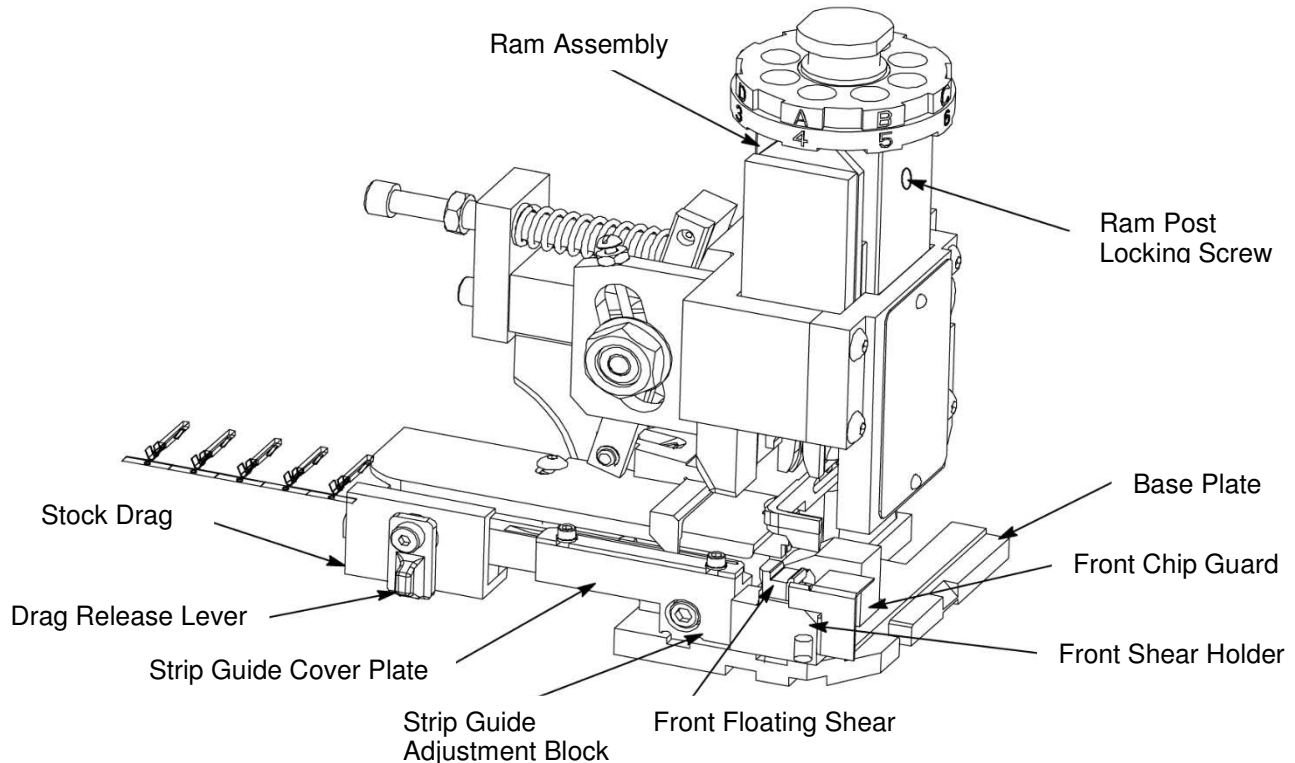
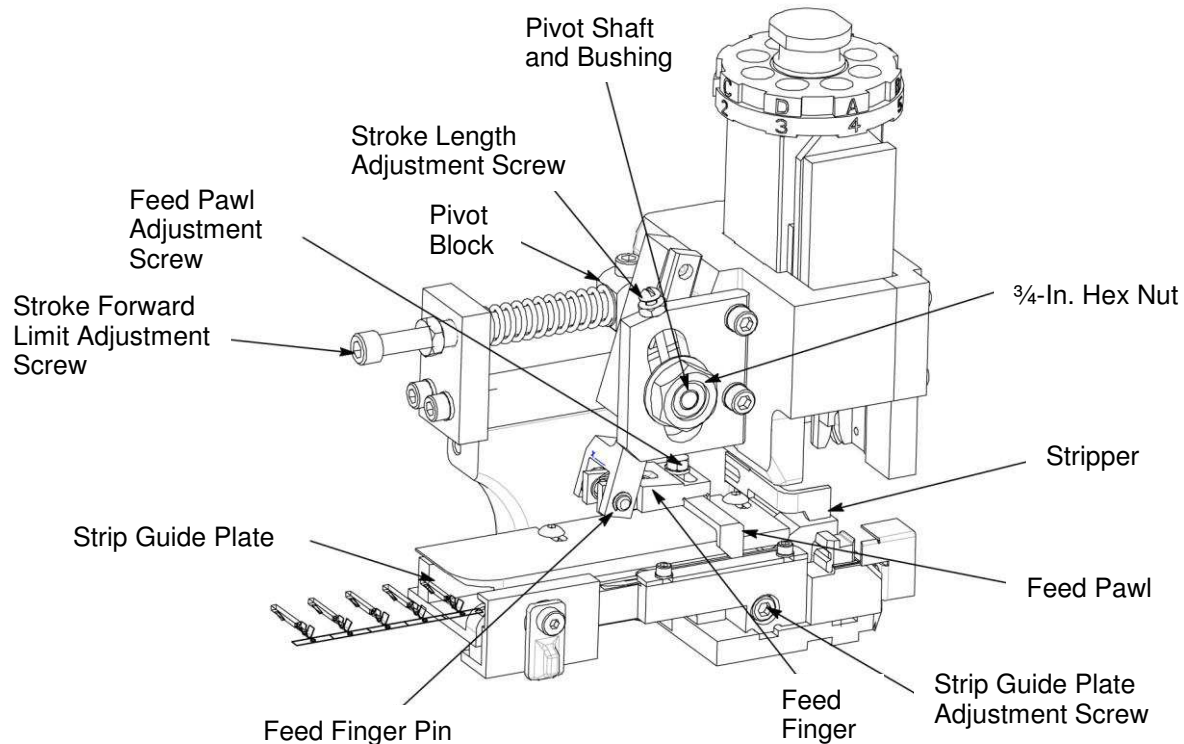
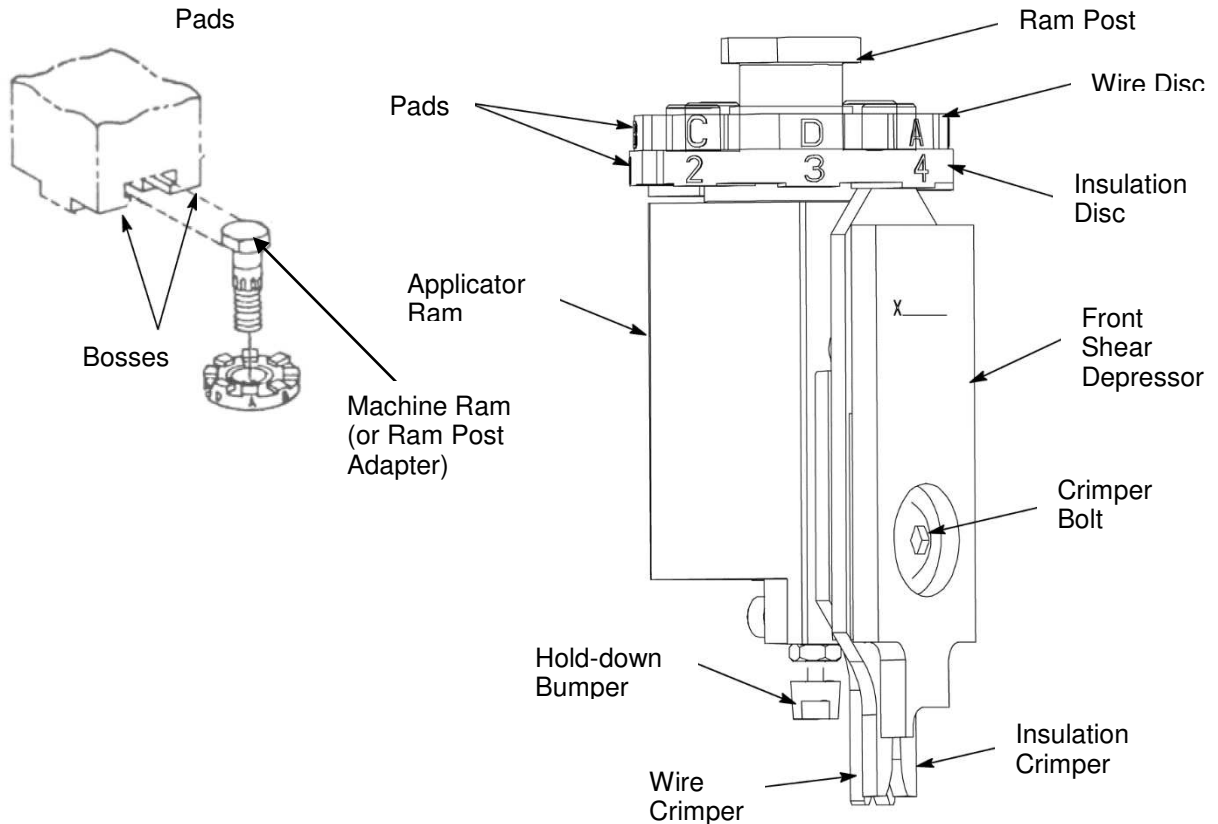
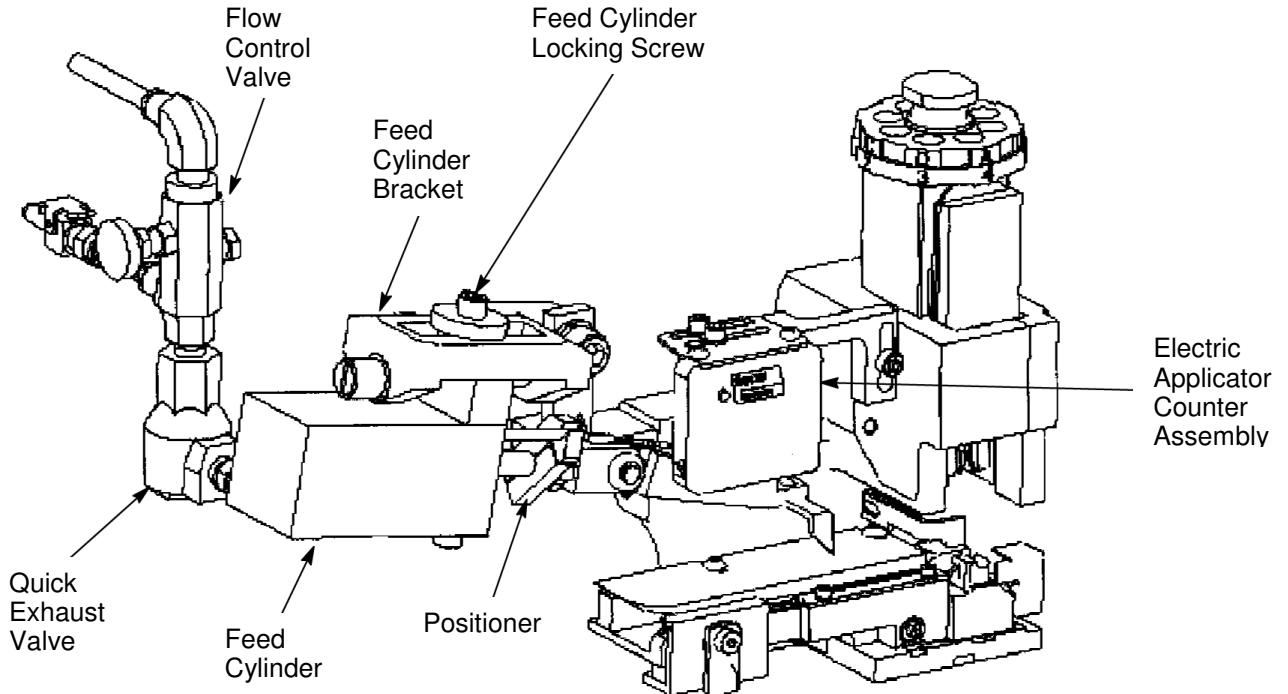

Figure 1
Figure 2
Figure 3
Figure 4
The Heavy Duty Miniature Quick-Change Applicator (side-feed type) with mechanical and air-feed systems apply side-feed strip terminals to pre-stripped wires (see Figure 1). Each applicator accepts the strip form of certain terminals, which are identified on the applicator parts list and exploded view drawing (Applicator Log) for each applicator. The terminal listed on the data plate is the one that was specified when the applicator was ordered. Some terminals have two carrier strips; others, just one.
The main components of the applicators with mechanical feed are identified in Figure 1 and Figure 2. The ram assembly is shown in detail in Figure 3.
Just below the ram post are the wire disc and insulation disc. The wire disc has as many as four pairs of pads, depending on the number of different wire sizes the terminals will accept. Each pair of pads has a different height. By rotating the disc, each pair of pads can be lined up with the two bosses on the ram post adapter (see Figure 3) to change the length of stroke of the wire crimper over the anvil. The insulation disc contains eight pads of different heights. When this disc is turned, the pads line up with the top of the insulation crimper to change the insulation crimp height.
2. Turn wire disc (upper disc) to line up selected pad letter with BOSSES ON MACHINE RAM (or RAM POST ADAPTER (reference Figure 3). This provides the right crimp height for that wire size.
3. Loosen screw on top of pivot block (see Figure 2). Turn the stroke forward limit adjustment screw COUNTERCLOCKWISE to move the forward limit toward anvil, or CLOCKWISE to move the forward limit away from anvil. Tighten screw on top of pivot block.
a. **Applicator with mechanical-feed systems** (Figure 2)
- (1) Loosen screw on top of pivot block.
- (2) Turn stroke forward limit adjustment screw COUNTERCLOCKWISE to move forward limit toward anvil, or CLOCKWISE to move forward limit away from anvil.
- (3) Tighten screw on top of pivot block.
b. **Applicator with air-feed systems** (Figure 4)
- (1) Loosen slightly the feed cylinder locking screw on top of feed cylinder bracket (see Figure 4).
- (2) Turn on-off valve to the "off" position (AMP-O-ELECTRIC machine), or disconnect air supply to feed cylinder (automatic equipment). Feed finger should retract.
- (3) Turn feed adjustment screw CLOCKWISE to RETRACT forward limit or COUNTERCLOCKWISE to EXTEND forward limit of stroke.